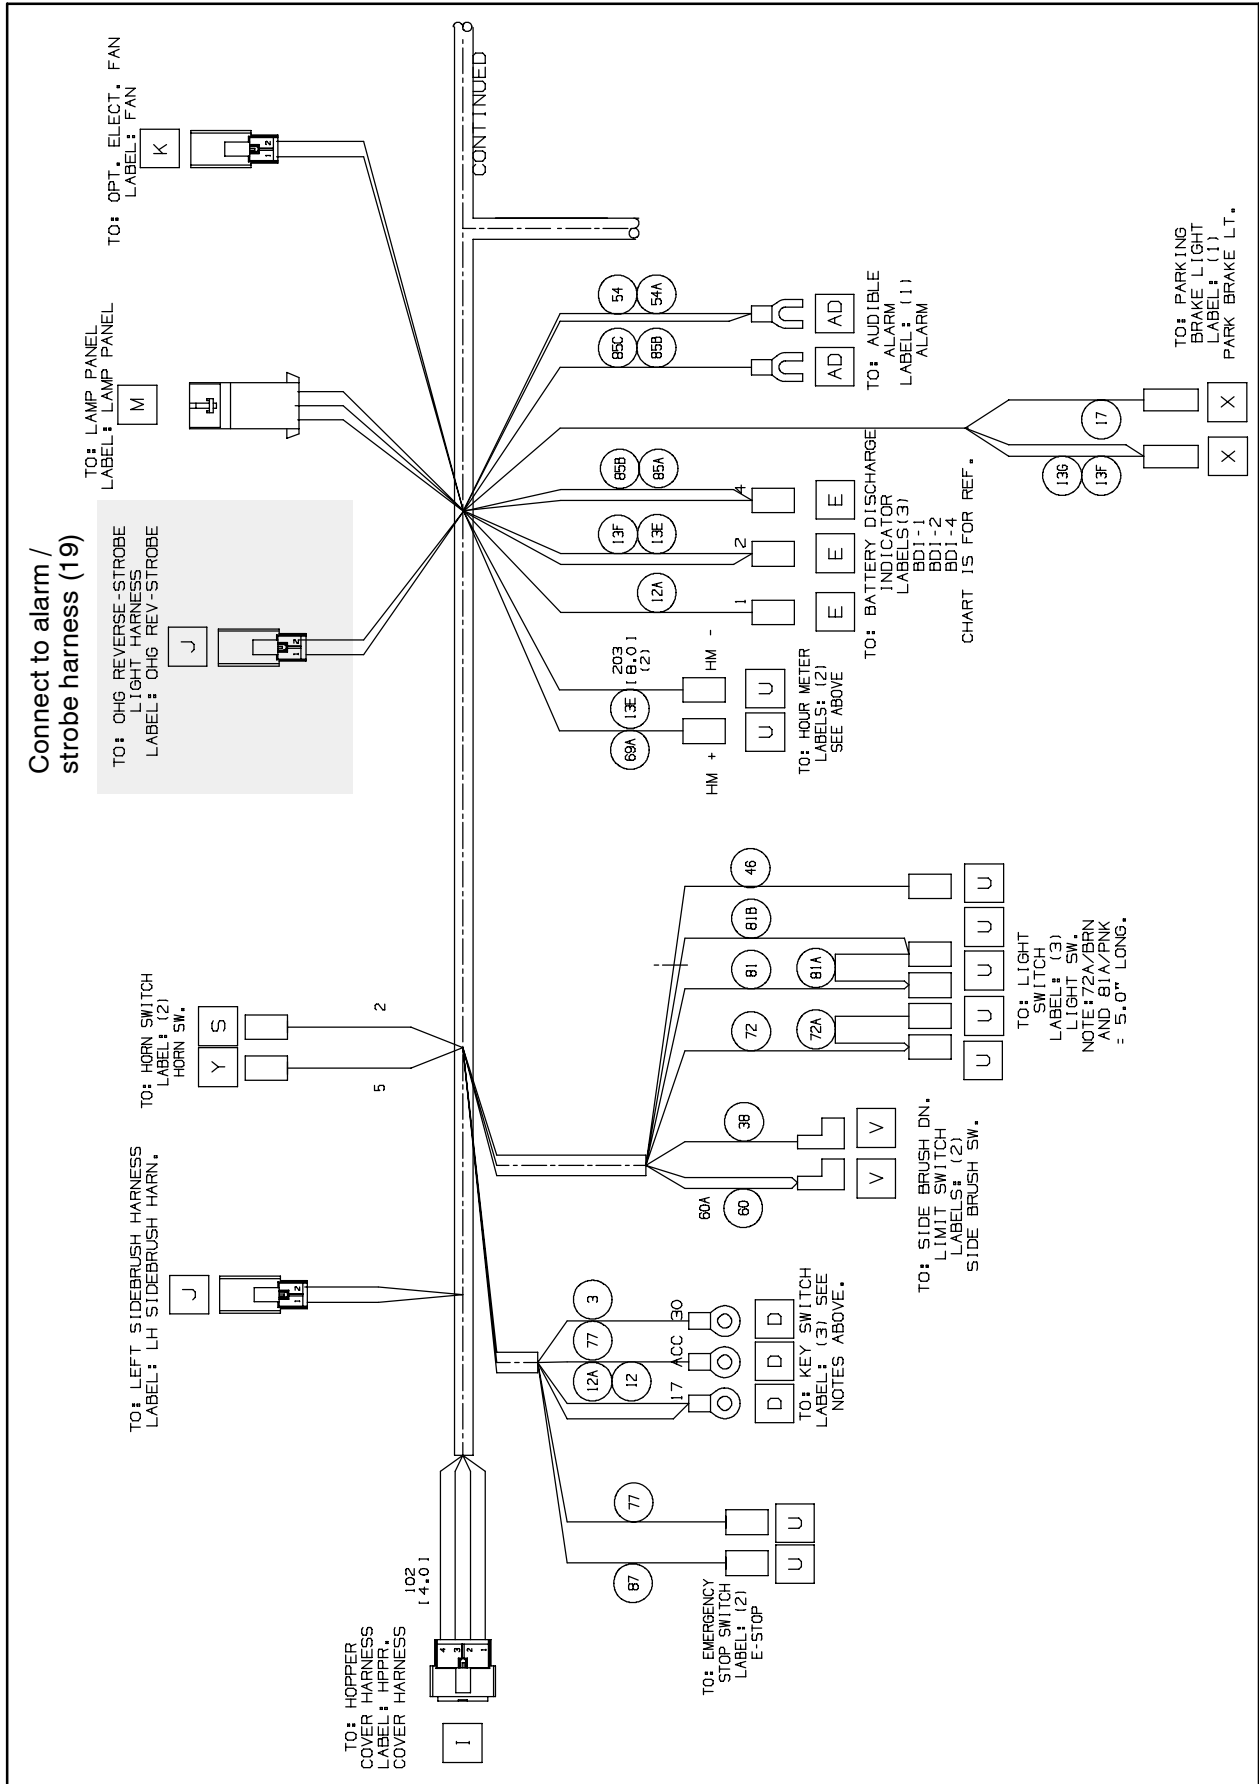

FIG. 13
18. Route the alarm / strobe harness (19) through the sections of vinyl duct, down between the main cover and frame of the machine, and connect the alarm / strobe harness to the main wire harness. Refer to Fig. 4, Fig. 8, and Fig. 13.